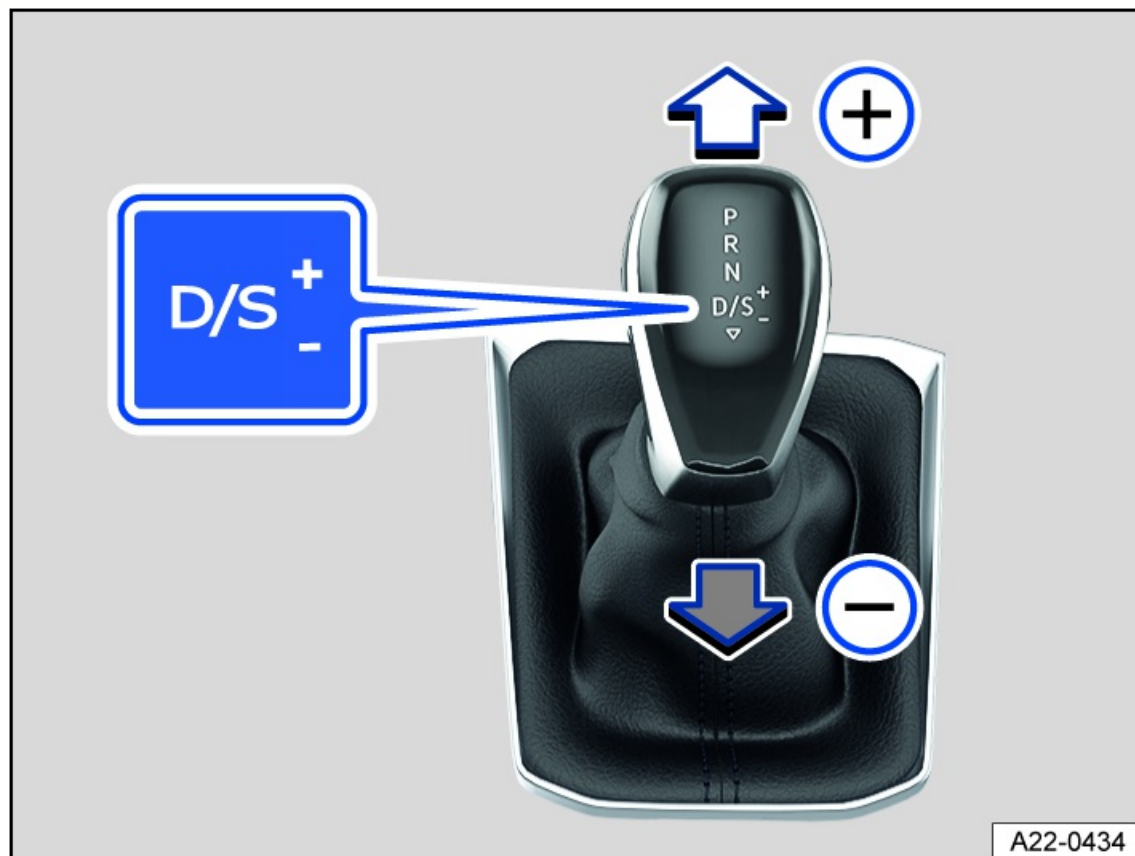

Fig. 123 In the center console: selector lever in the tiptronic position.
2. Tap the selector lever forward  or to the rear  to upshift or downshift *fig. 123*.